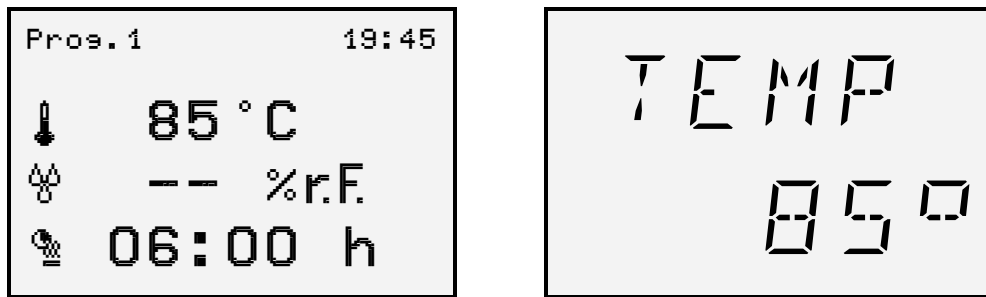

Fig. 4: "Sauna" view (example)
16. Press the ▼ key. The "Sauna" view (Fig. 4) is displayed again.
1. The "Sauna" (Fig. 4), "Sauna with humidity" (Fig. 5) or "Infrared" (Fig. 6) view is displayed.